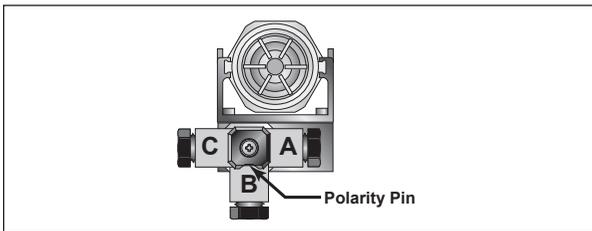

Figure 15. Polarity Pin
3. After securing wires to solder lugs, determine which direction the body of the connector should face. Before snapping the connector into place, refer to **Figure 15** on page 10.